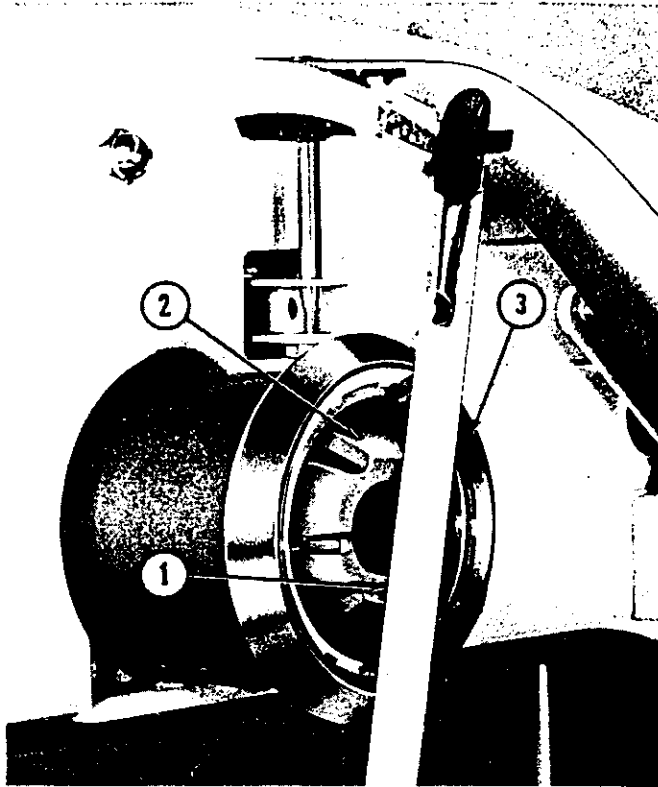

Fig. 87. RECORD CLAMP SETTING
(3) Advance the cycle of the record changer or manually operate the record clamp cam about 90° to the position which completely retracts the turntable pilot (See Item 2, Fig. 87). In this position, the turntable pilot should be retracted beyond the forward surface of the turntable (Item 3) 1/32" to 1/16".